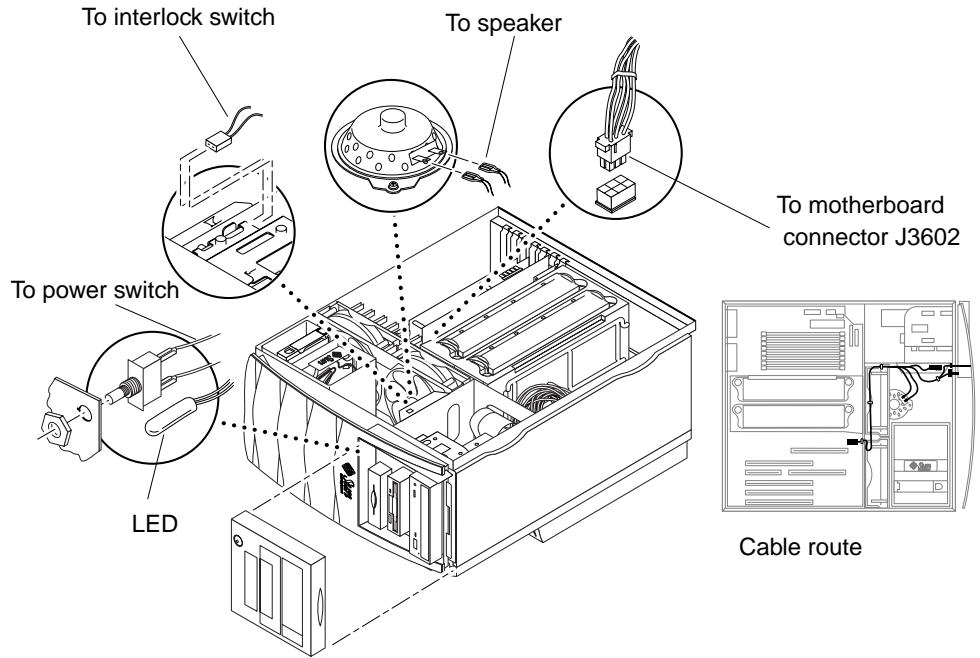

FIGURE 6-10 Removing and Replacing the Combined Cable Assembly
5. **Disconnect the combined cable assembly as follows (FIGURE 6-10):**
1. Position the combined cable assembly in the chassis (FIGURE 6-10).